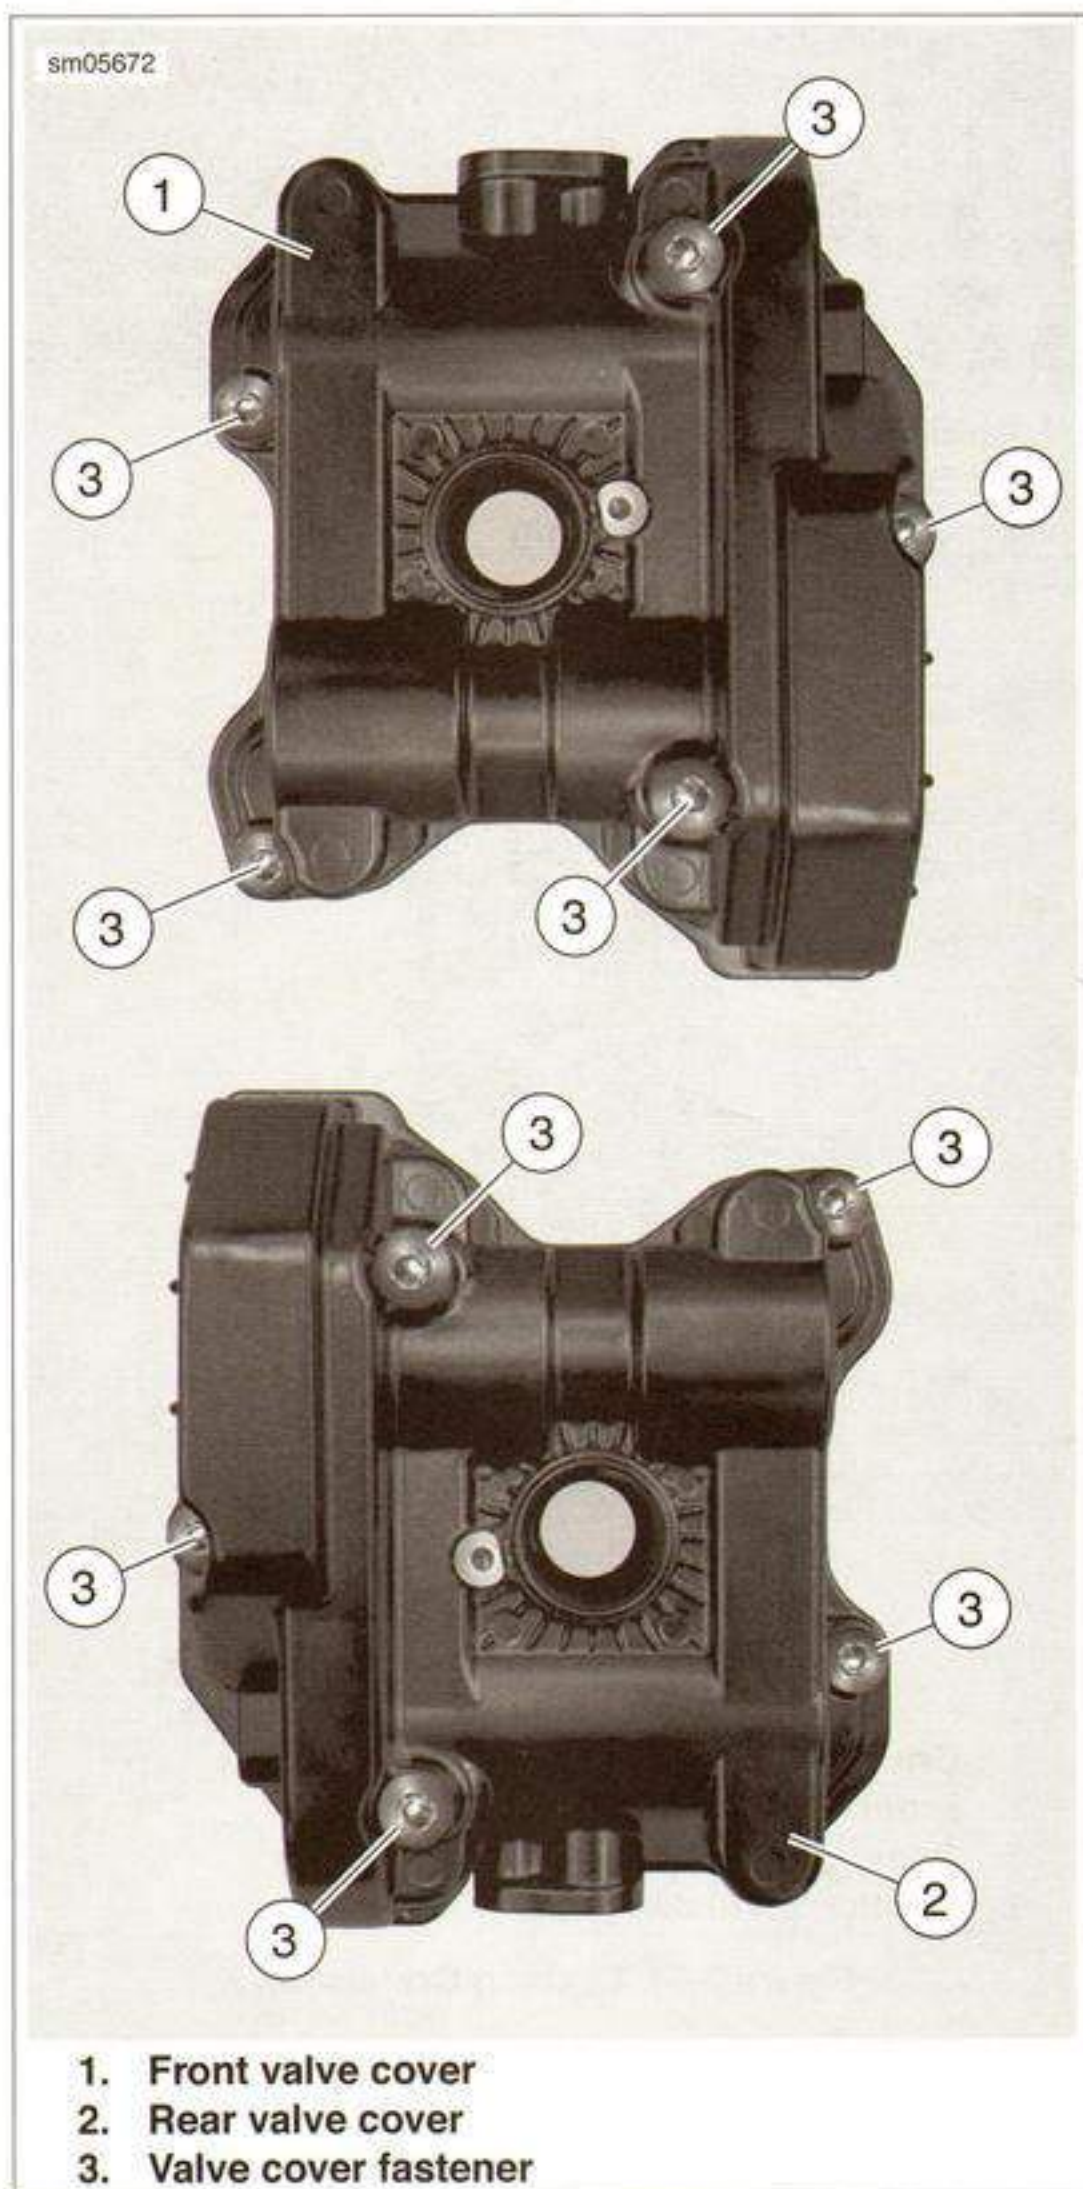

Figure 3-62. Front and Rear Valve Cover Orientation
1. See Figure 3-62. Loosen the valve cover fasteners (3).
2. Remove the front (1) and rear (2) valve covers.
2. Inspect the coil gasket seals (2). Replace if damaged or torn.
3. See Figure 3-62. Orient the covers to the cylinder heads.